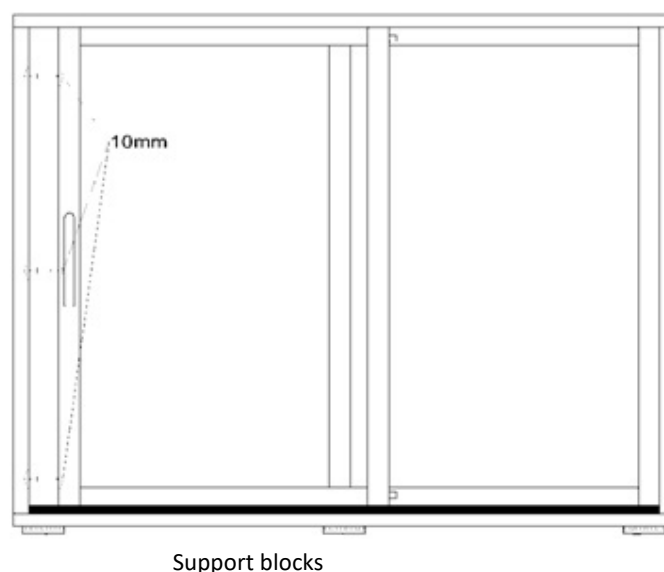

Figure 14. Location of support blocks when installing a parallel sliding door
11. Support blocks should always be placed in locations showed on the figure (see Figure 14. Location of support blocks when installing a parallel sliding door).